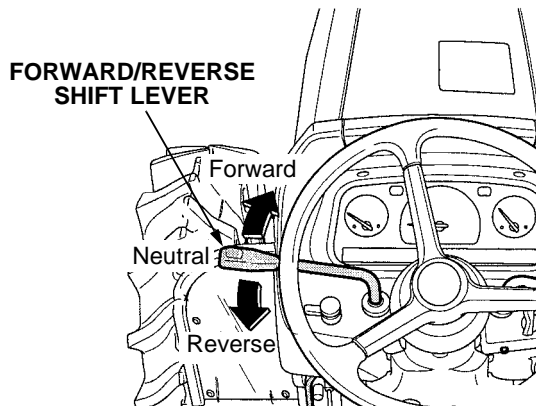

Figure 6
- Shift the lever into one of three positions (See Figure 6).